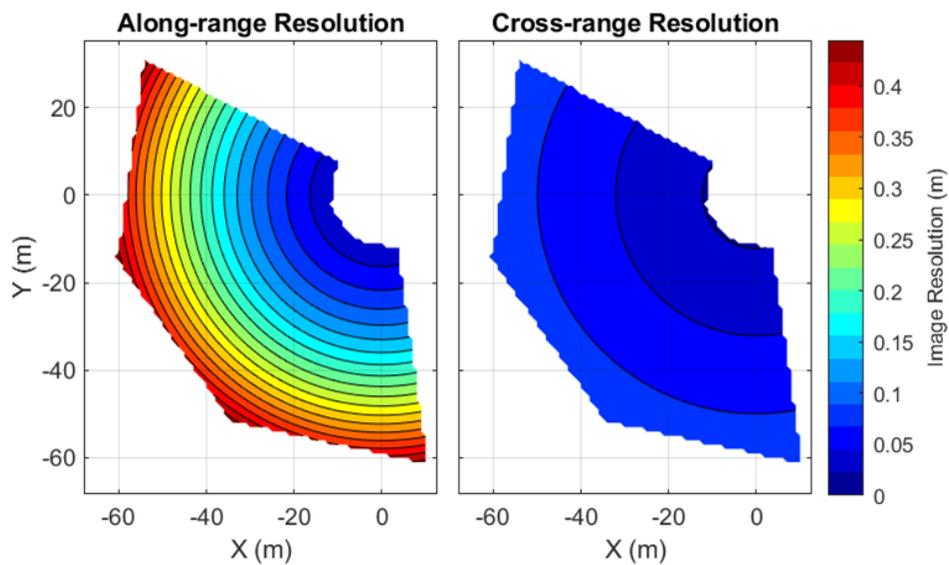

Figure 4: Contour plots of predicted along-range and cross-range image resolution of the camera array
- Resolution_AlongCrossRange_Subplot.png – This file contains a high-resolution subplot of the along-range and cross-range resolution contours, constrained to the same colorbar axis (Figure 4).